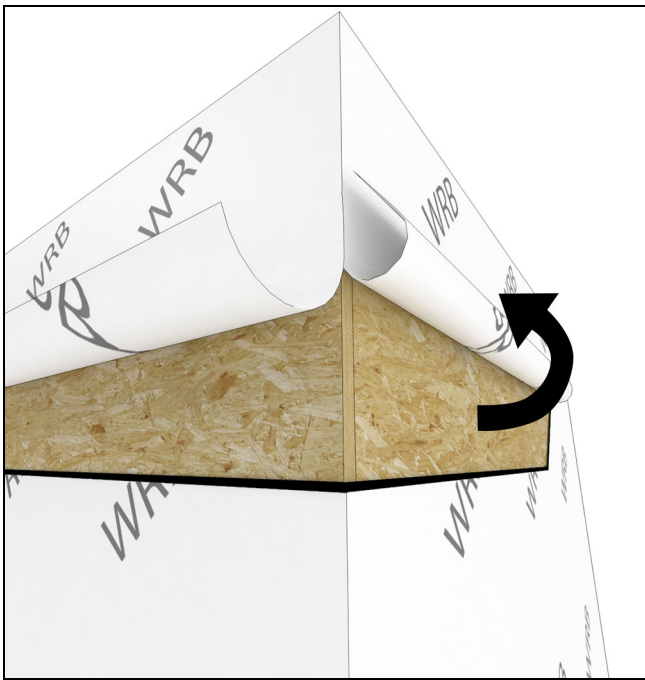

Figure 5
6. Flip the top flaps up and tack in place temporarily. See Figure 5.